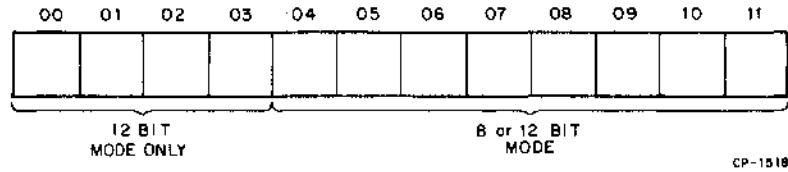

Figure 4-6 RXDB Format (RX8E)
4.3.5 RXDB – RX Data Buffer (Figure 4-6)